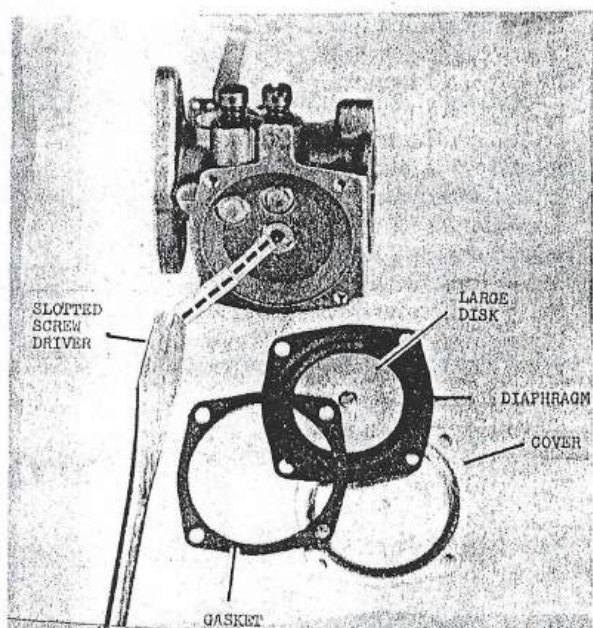

Figure 12
5. The diaphragms are easily serviced or replaced by removing the four screws that hold the diaphragm cover to the carburetor body. (See Figure 12.)